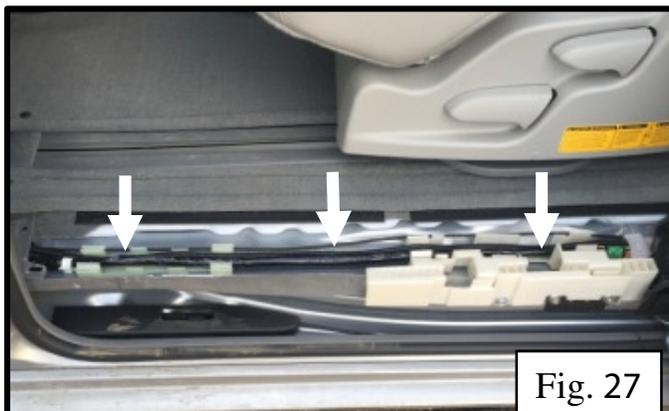

Fig. 27
12. Continue routing the harness along the sliding door threshold following the existing wiring harnesses, using 3 cable ties (white arrows) spaced out evenly in the span to secure to the existing harness as shown (Fig.27).